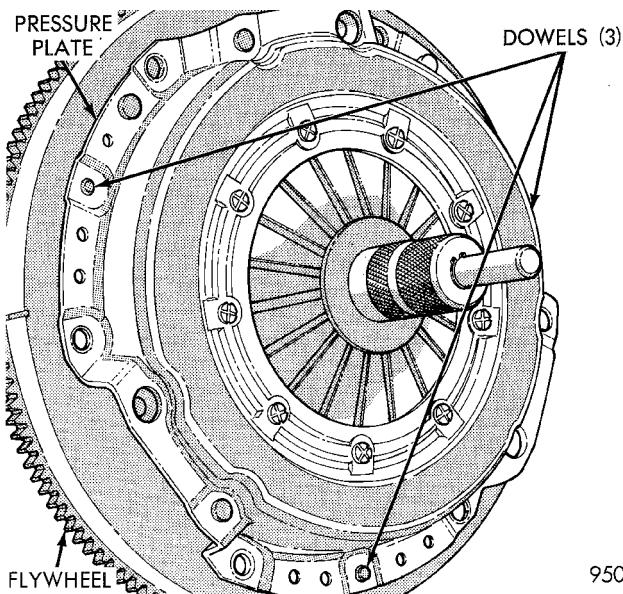

Fig. 7 Clutch Disc Aligning Tool
(1) Remove transaxle. See Group 21, Manual Transaxle, for procedure.
(2) Mark clutch cover and flywheel, to maintain their same relative positions when installing clutch assembly.
(3) Insert Clutch Disc Aligning Tool 6724 through the clutch disc hub to prevent the clutch disc from falling and damaging the facings (Fig. 7).